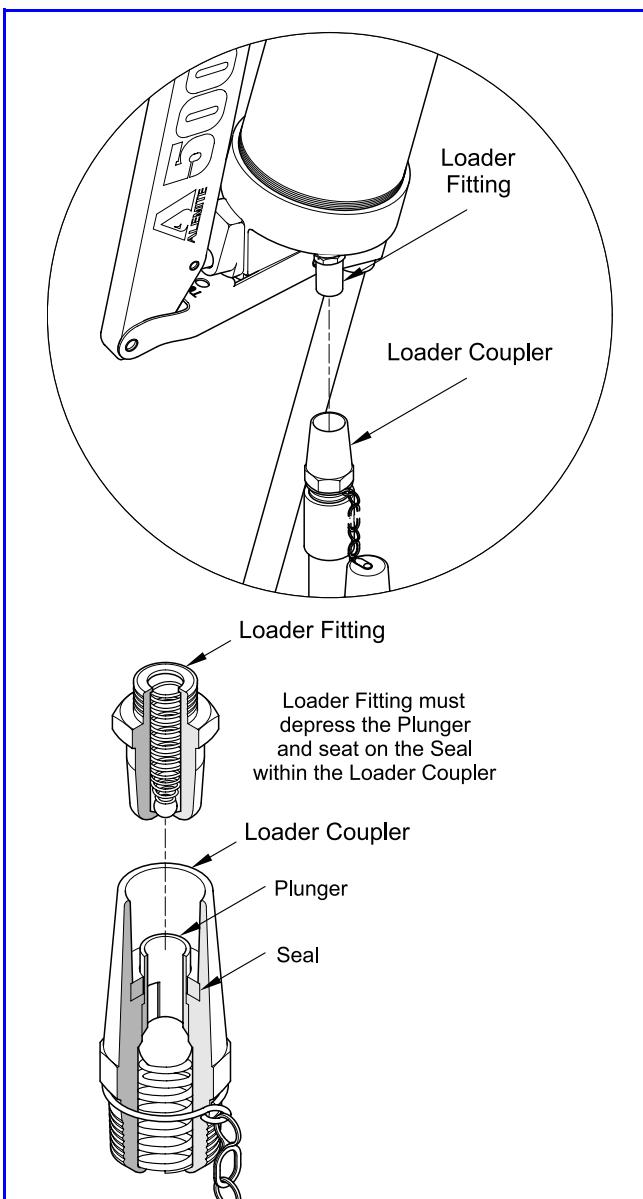

Figure 5 Loader Fitting and Loader Coupler Section View
The guns are spring-primed and contain an air bleed valve to aid the priming process. Each gun is also equipped with a Loader Fitting that allows filling directly from a hand-operated loader pump. See **Figure 5**.
5. Seat the Loader Fitting into the loader coupler. See **Figure 5**.